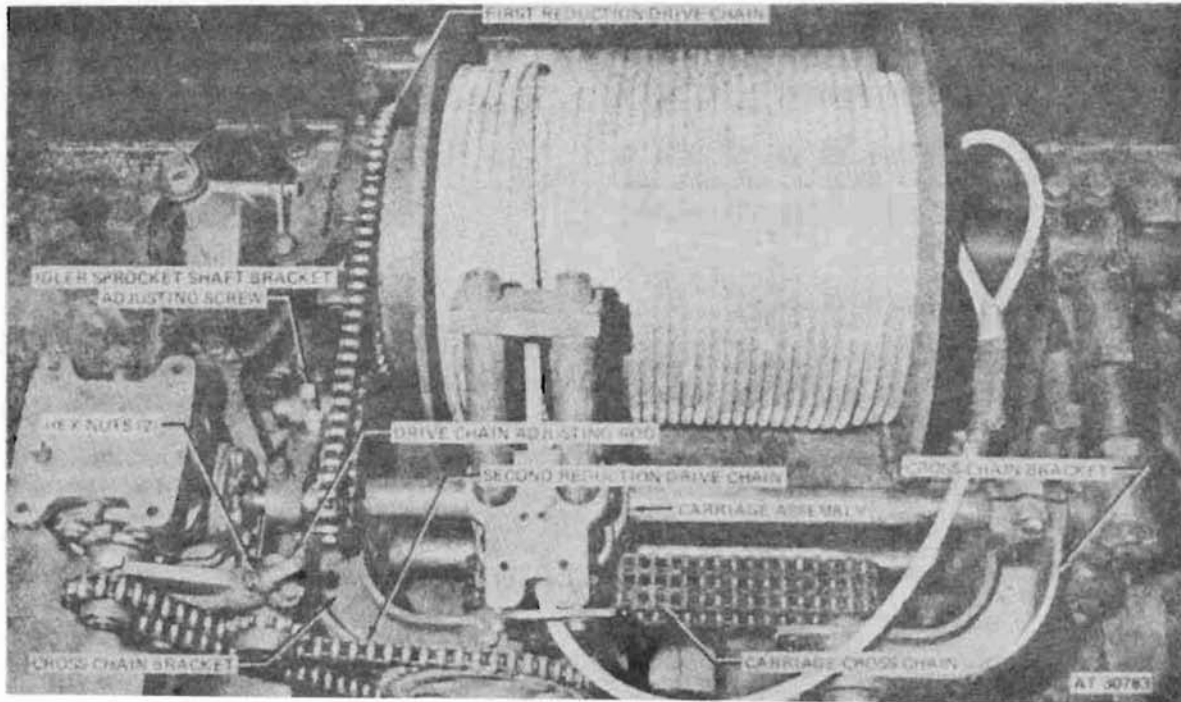

Figure 458. Cable level winder drive chains - rear winch.
(c) Loosen hex-nut on adjusting screw (fig. 458) in idler sprocket shaft bracket to lower idler sprocket.
(2) *Installation.* Install first reduction drive chain and chain cover in reverse order of removal. Adjust chain tension as described in (3) below.
(3) *Chain adjustment.* The drive chain is adjusted by tightening the adjusting screw (fig. 458) in idler sprocket shaft bracket until there is approximately
- (b) Loosen the two hex nuts on drive chain adjust rod (fig. 458) to remove idler sprocket tension from chain. Locate and remove chain from sprockets.
sprocket as shown in figure 458. Adjust chain tension as described in (3) below.
- (3) *Chain Adjustment.* The drive chain is adjusted by tightening the lower hex-nut on adjusting rod (fig. 458) until there is approximately 1/2-inch deflection in chain. Tighten other hex nut on adjusting rod after proper deflection is obtained.
- (a) Loosen the two cap screws clamping both cross-chain brackets (fig. 458) to carriage tie rods.